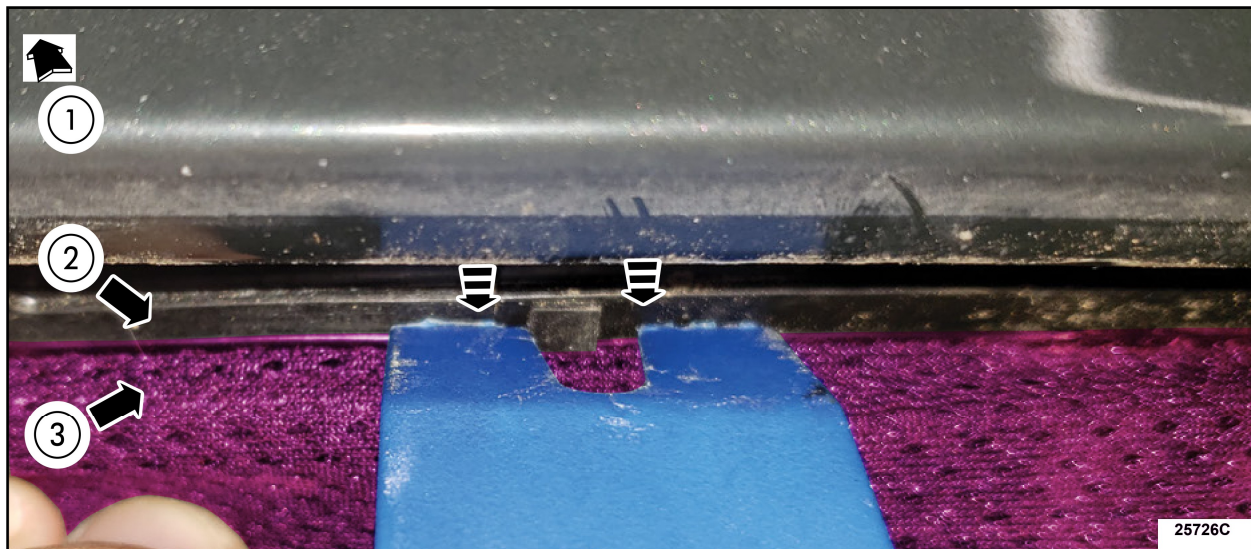

FIGURE 3
4. In the locations that are not secured, attach the plastic edge of the air deflector fabric material to the roof opening panel frame tabs. See Figure 3.
NOTE: Using a plastic trim tool may aid in installation of the Air Deflector fabric material. Figure 3 shows the Front of the Air Deflector pushing down on the plastic edge of the Air Deflector fabric material.